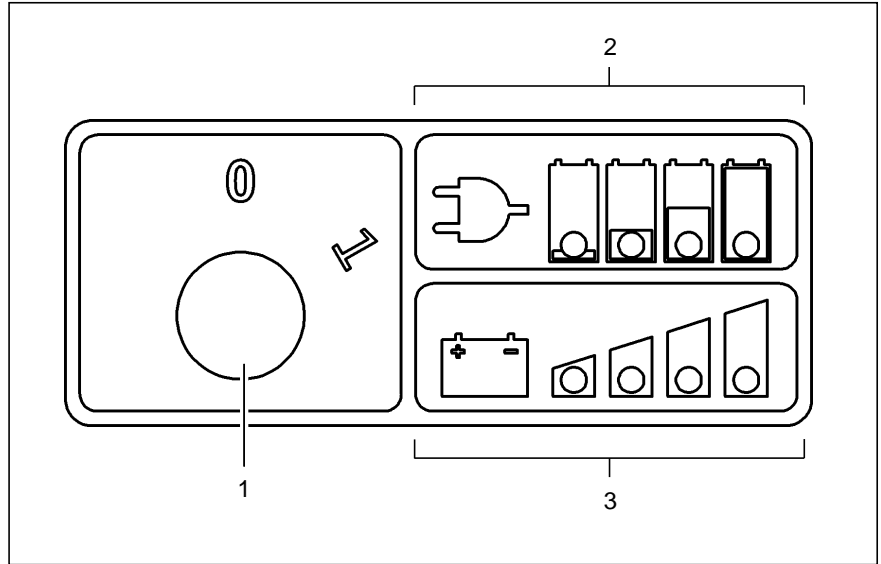

Fig. 10
#### Key switch (Fig. 10/1)
#### Charge control indicator (Fig. 10/2)
### Battery discharge status (Fig. 10/3)
1. Set the key switch (Fig. 10/1) to Position 1.